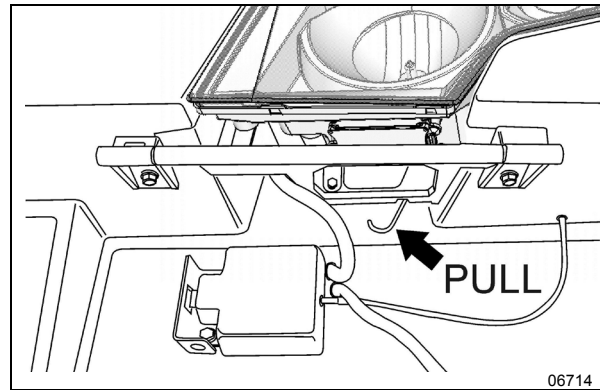

FIGURE 77: ROCKING THE HEADLAMPS ASSEMBLY
3. Pull on the rod shown on FIGURE 77 to pivot the headlamps assembly.